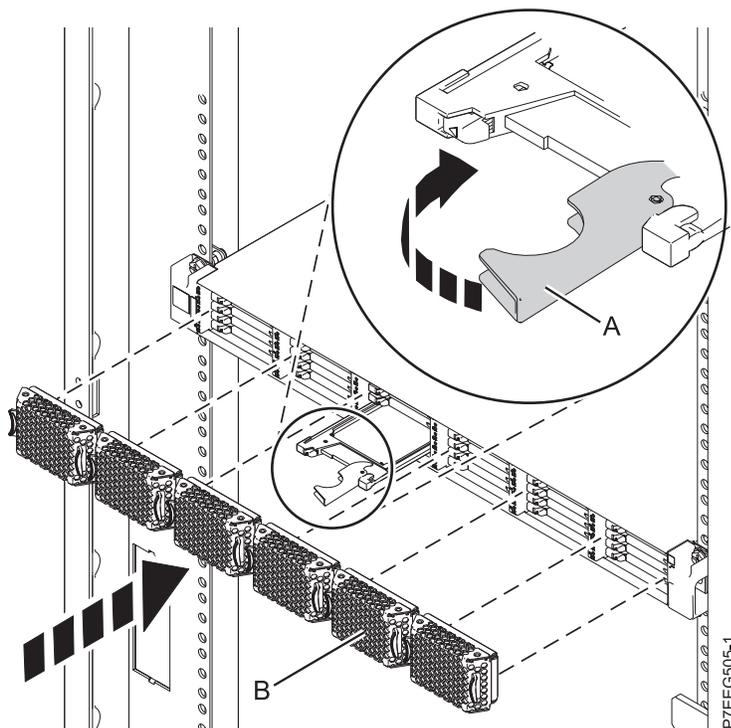

Figure 3. Installing a solid-state drive in the 58/88 PCIe storage enclosure
- With the handle in the unlocked position, align the solid-state drive with the guide rails in the enclosure. See Figure 3 on page 9.